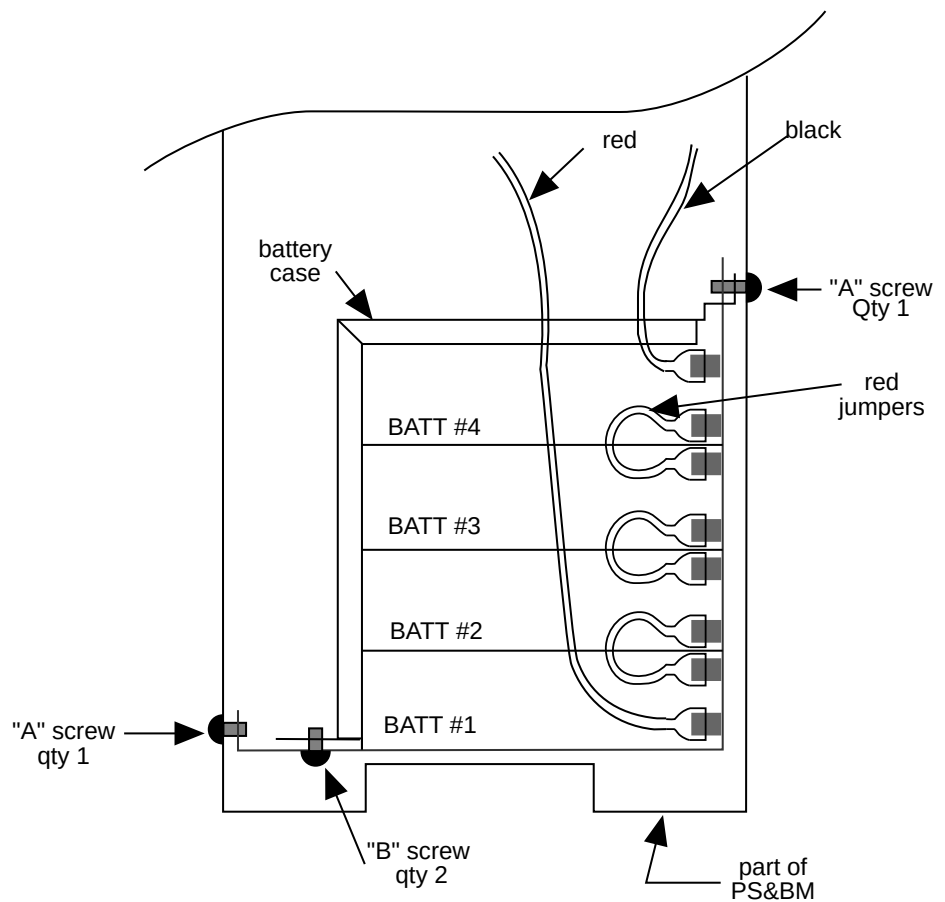

Figure A-1. Battery Module of the MAP/100
2. Remove the screws marked "A" from the PS&BM as shown in Figure A-1.
8. Remove the two screws marked "B" in Figure A-1 from the bottom of the battery case.
1. Install the new battery module with the battery terminals oriented as shown in Figure A-1.
3. Connect the batteries together with the three red jumpers as shown in Figure A-1.